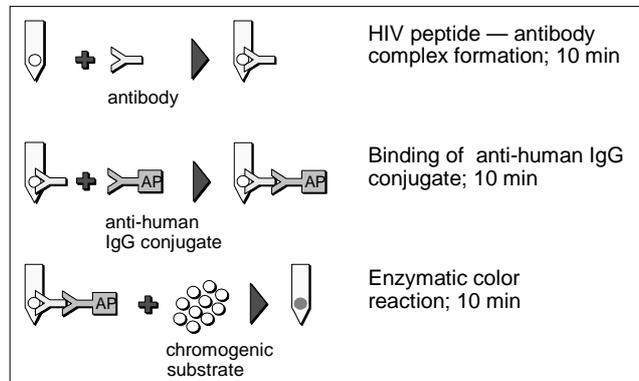

Figure 1. Principle of the Test
To start the test, serum or plasma specimens are added to the diluent in the wells of row A of the Developing Plate. The Comb is then inserted in the wells of row A. Anti-HIV antibodies, if present in the specimens, will specifically bind to the synthetic peptides on the lower and/or middle spots on the teeth of the Comb (Figure 1). Simultaneously, immunoglobulins present in the specimens will be captured by the anti-human immunoglobulin antibodies on the upper spot (Internal Control). Unbound components are washed away in row B. In row C, the IgG captured on the teeth will react with anti-human IgG antibodies labeled with alkaline phosphatase (AP). In the next two rows, unbound components are removed by washing. In row F, the bound alkaline phosphatase will react with chromogenic components. The results are visible as gray-blue spots on the surface of the teeth of the Comb.